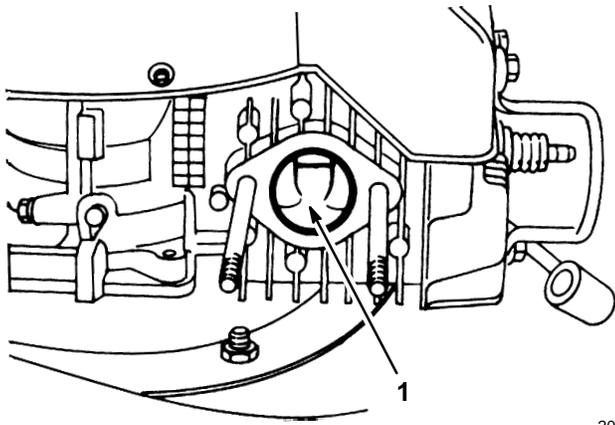

Figure 19
- Slowly pull recoil starter so piston covers exhaust port (Fig. 19).
- Clean carbon from exhaust port (Fig. 19) with flat, hard wood scraper.